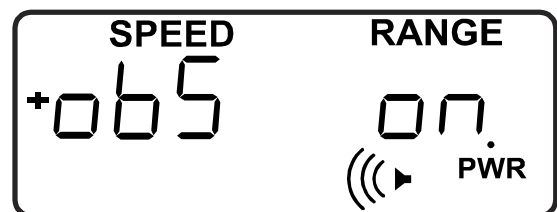

Figure 11
- ☐ Auto Obstruction Mode (Figure 11)